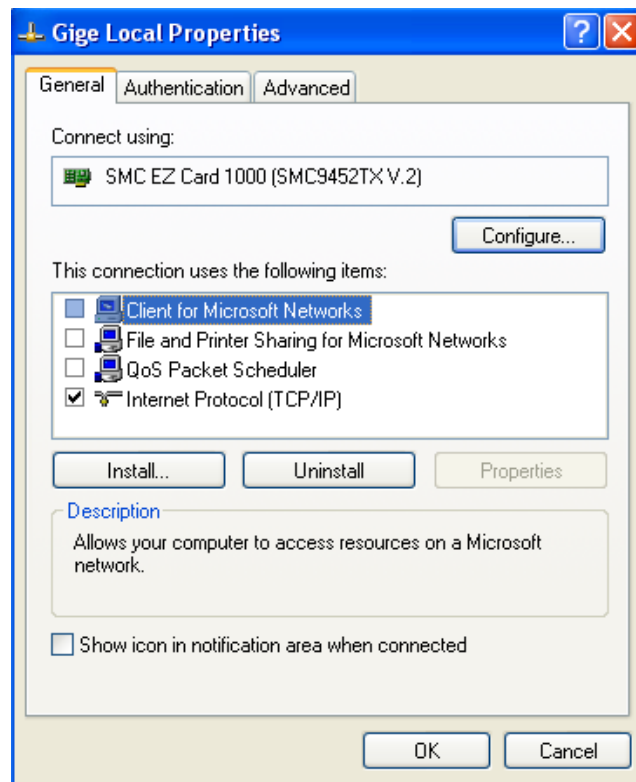
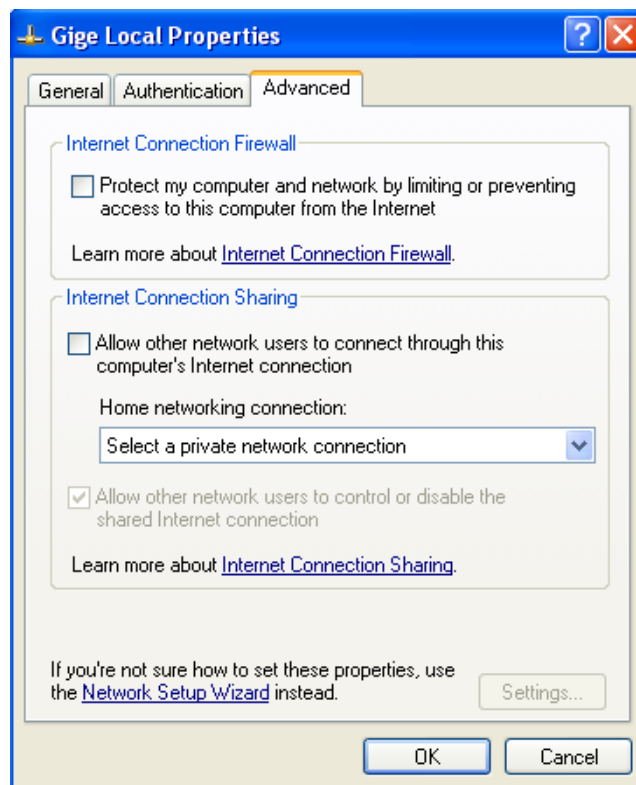

Figure 4. Network card main properties window.
Figure 6. Turn off Firewall.
- Once the driver is installed, open the Network Connections Dialog as follows: From the Windows desktop select **start**, then select **Control Panel**, then double click on the **Network Connections** icon. Double click the relevant network card listed or right-click the relevant network card and select **Properties**. This will open the properties window for your network card. See Figure 4.
- Return to the Gige Local Properties window as in Figure 4. Select the Advanced tab as in Figure 6 and disable the Firewall for this device. Click **OK** to save changes.